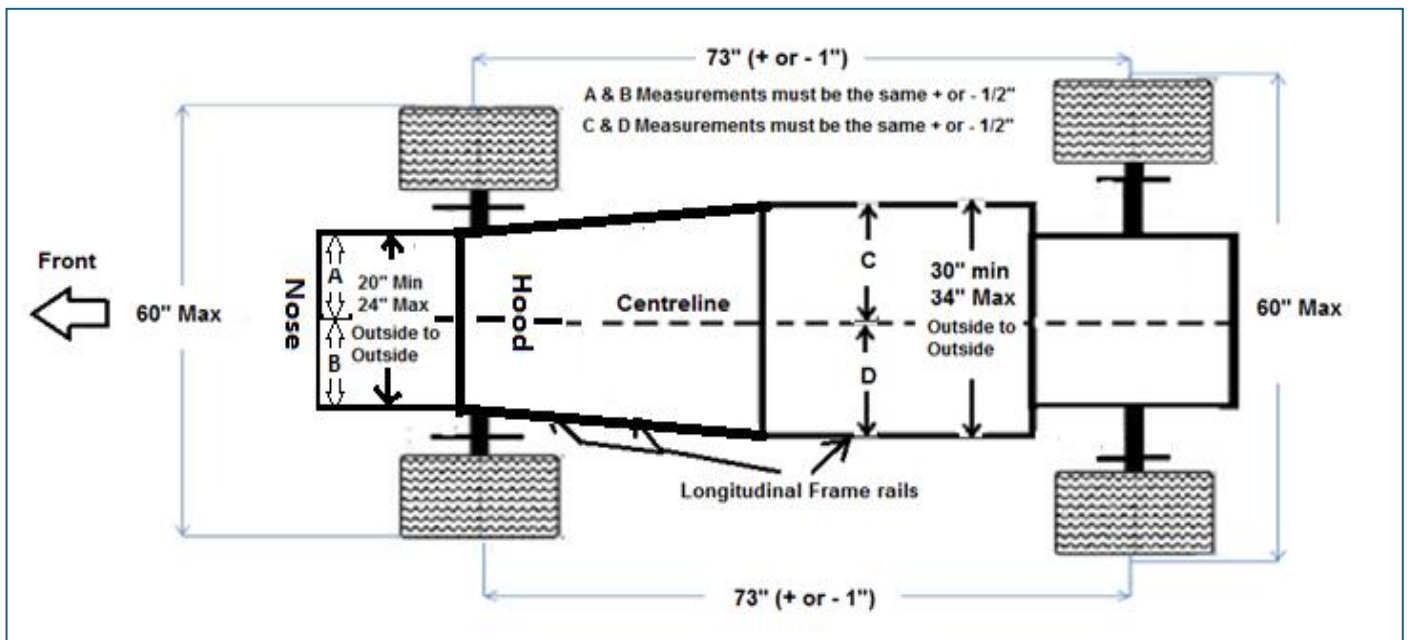

Figure 17
- 24.1 Maximum frame width is 34 inches, and the minimum frame width is 30 inches (no tolerance). These are outside dimensions (*Figure 17*).